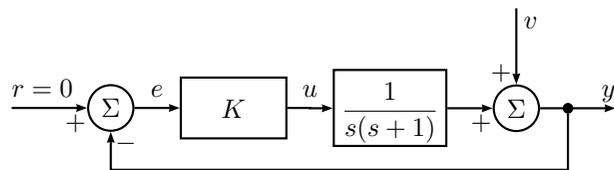

Figure 6.1a
- 6.1 Consider the control system in Figure 6.1a where  $v(t)$  is a sinusoidal disturbance,  $v(t) = \sin(t)$ . Compute the absolute value of the sensitivity function at  $\omega = 1$  rad/s as a function of  $K$ . How must  $K$  be selected if the amplitude of  $y(t)$  shall be less than the amplitude of  $v(t)$  at this frequency?